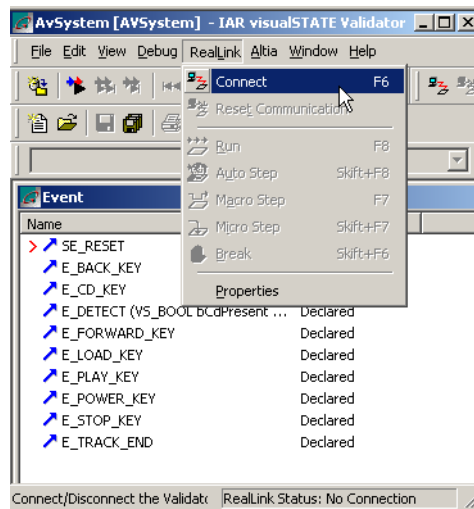

Figure 169: Connecting to RealLink
- 1 On the Validator menu, choose `RealLink>Connect` as shown in *Figure 169*, page 219.